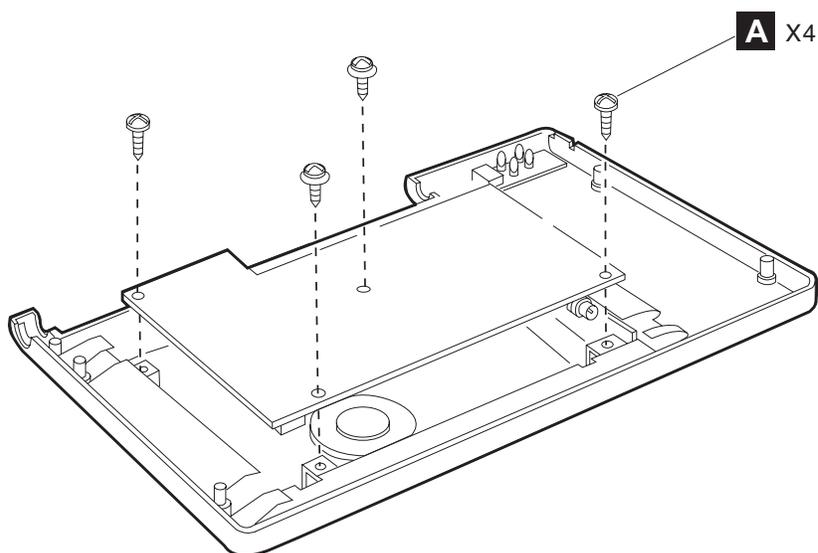

Figure 66. Removing the screws
6. Remove the four screws (**A** in Figure 66).